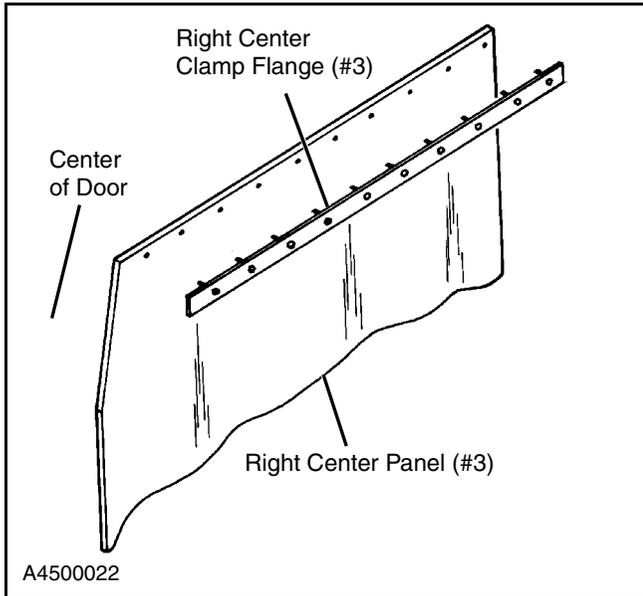

Figure 30
4. Insert the right center clamp flange (#3) through the right center panel (#3). (See Figure 30.)